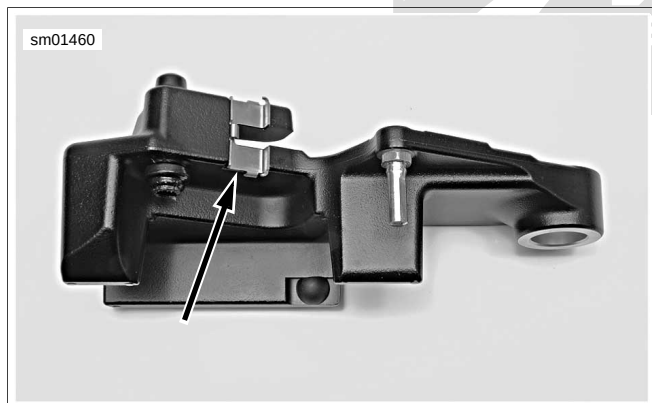

Figure 2-130. Retainer Clip
1. See Figure 2-130. Before installing caliper, make sure that retainer clip is properly installed on mounting bracket.